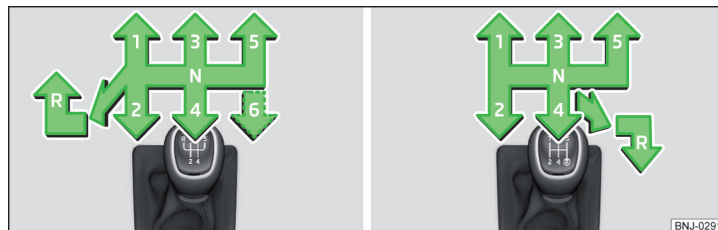

Fig. 211 The shift pattern: Variant 1 (5-speed or 6-speed manual gearbox) / variant 2 (5-speed gearbox with the 1.0 litre MPI engine)
On the gear lever, the shift pattern for the individual gear positions is shown » Fig. 211.
- Push the shift lever downwards fully to the left and then forward into **R** » Fig. 211.